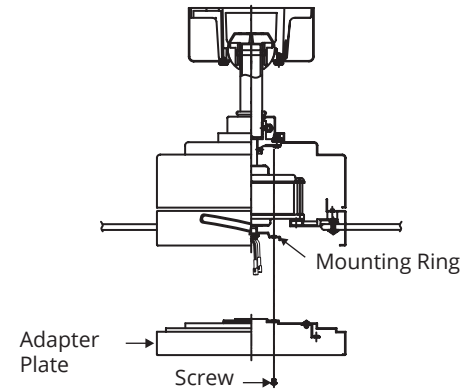

FIGURE 18
2. Place the key holes in the mounting plate over the two screws previously loosened from the mounting ring. Turn the mounting plate until the adapter plate locks in place at the narrow section of the key holes (Fig. 18).